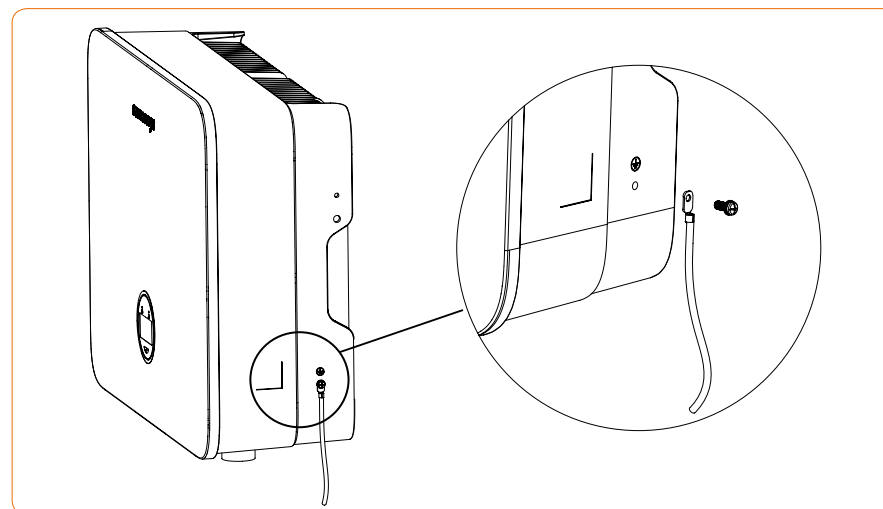

Figure 4-9 Grounding terminal connection
- ① The external grounding terminal is located in the lower right side of the inverter.
- ② The ground screw (M5, provided as standard) is pre-assembled in the grounding hole on the side of the inverter. Remove it using a screwdriver.
- ③ The circular copper terminal lug is included in accessory box. Secure it to the PE wire using a crimping tool.
- ④ Place the terminal lug over the grounding hole, insert the M5 screw through the lug, and tighten it into the hole as Figure 4-9. Recommended tightening torque: 2.20–2.80 N·m.
- ⑤ The cross-sectional area of the external grounding cable is 4 mm²